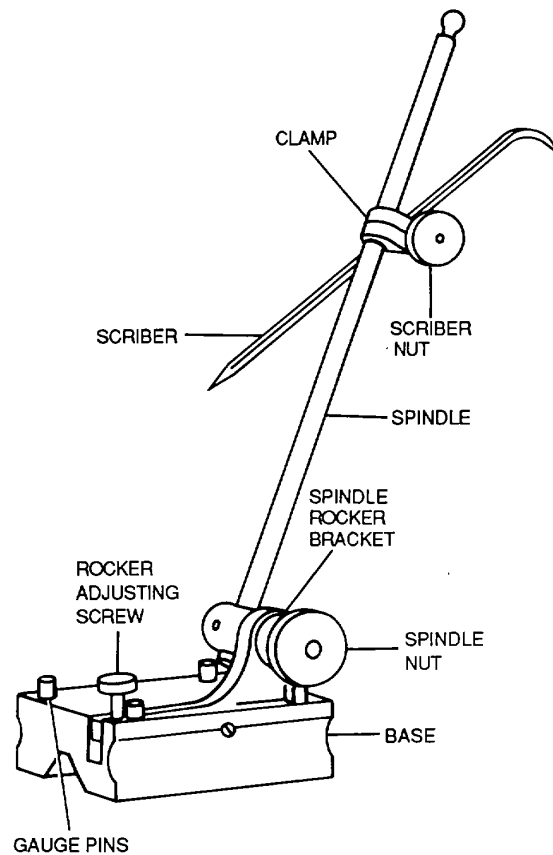
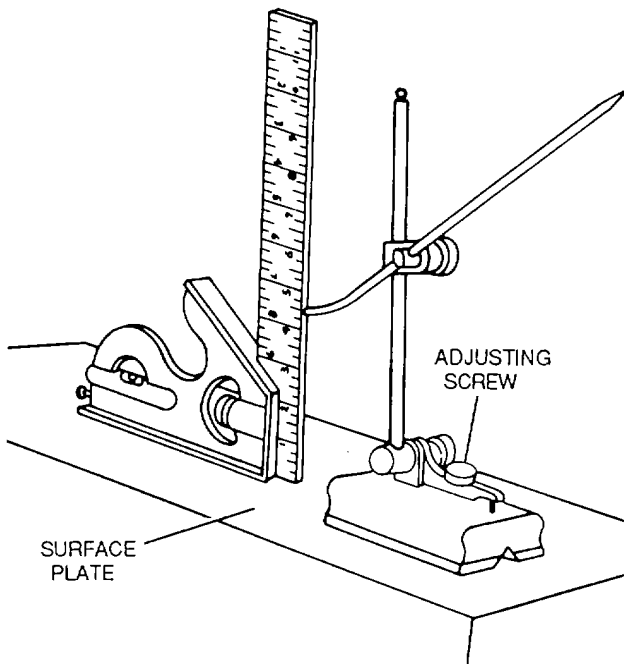

Figure 3-45. Surface Gauge
Figure 3-46. Setting Height on a Surface Gauge
a. Description. As shown in figure 3-45, the surface gauge consists of a base with an adjustable spindle to which may be clamped a scriber or an indicator. Surface gauges are made in several sizes and are classified by the length of the spindle. The smallest spindle is 4 inches long, the average 9 to 12 inches, and the largest 18 inches. The scriber is fastened to the spindle with a clamp. The bottom and the front end of the base of the surface gauge have deep V-grooves. The grooves allow the gauge to measure from a cylindrical surface. The base has two gauge pins. They are used against the edge of a surface plate or slot to prevent movement or slippage.
(1) Wipe off the top of a layout table or surface plate and the bottom of the surface gauge.
(2) Place the squaring head of a combination square on a flat surface as shown in figure 3-46.